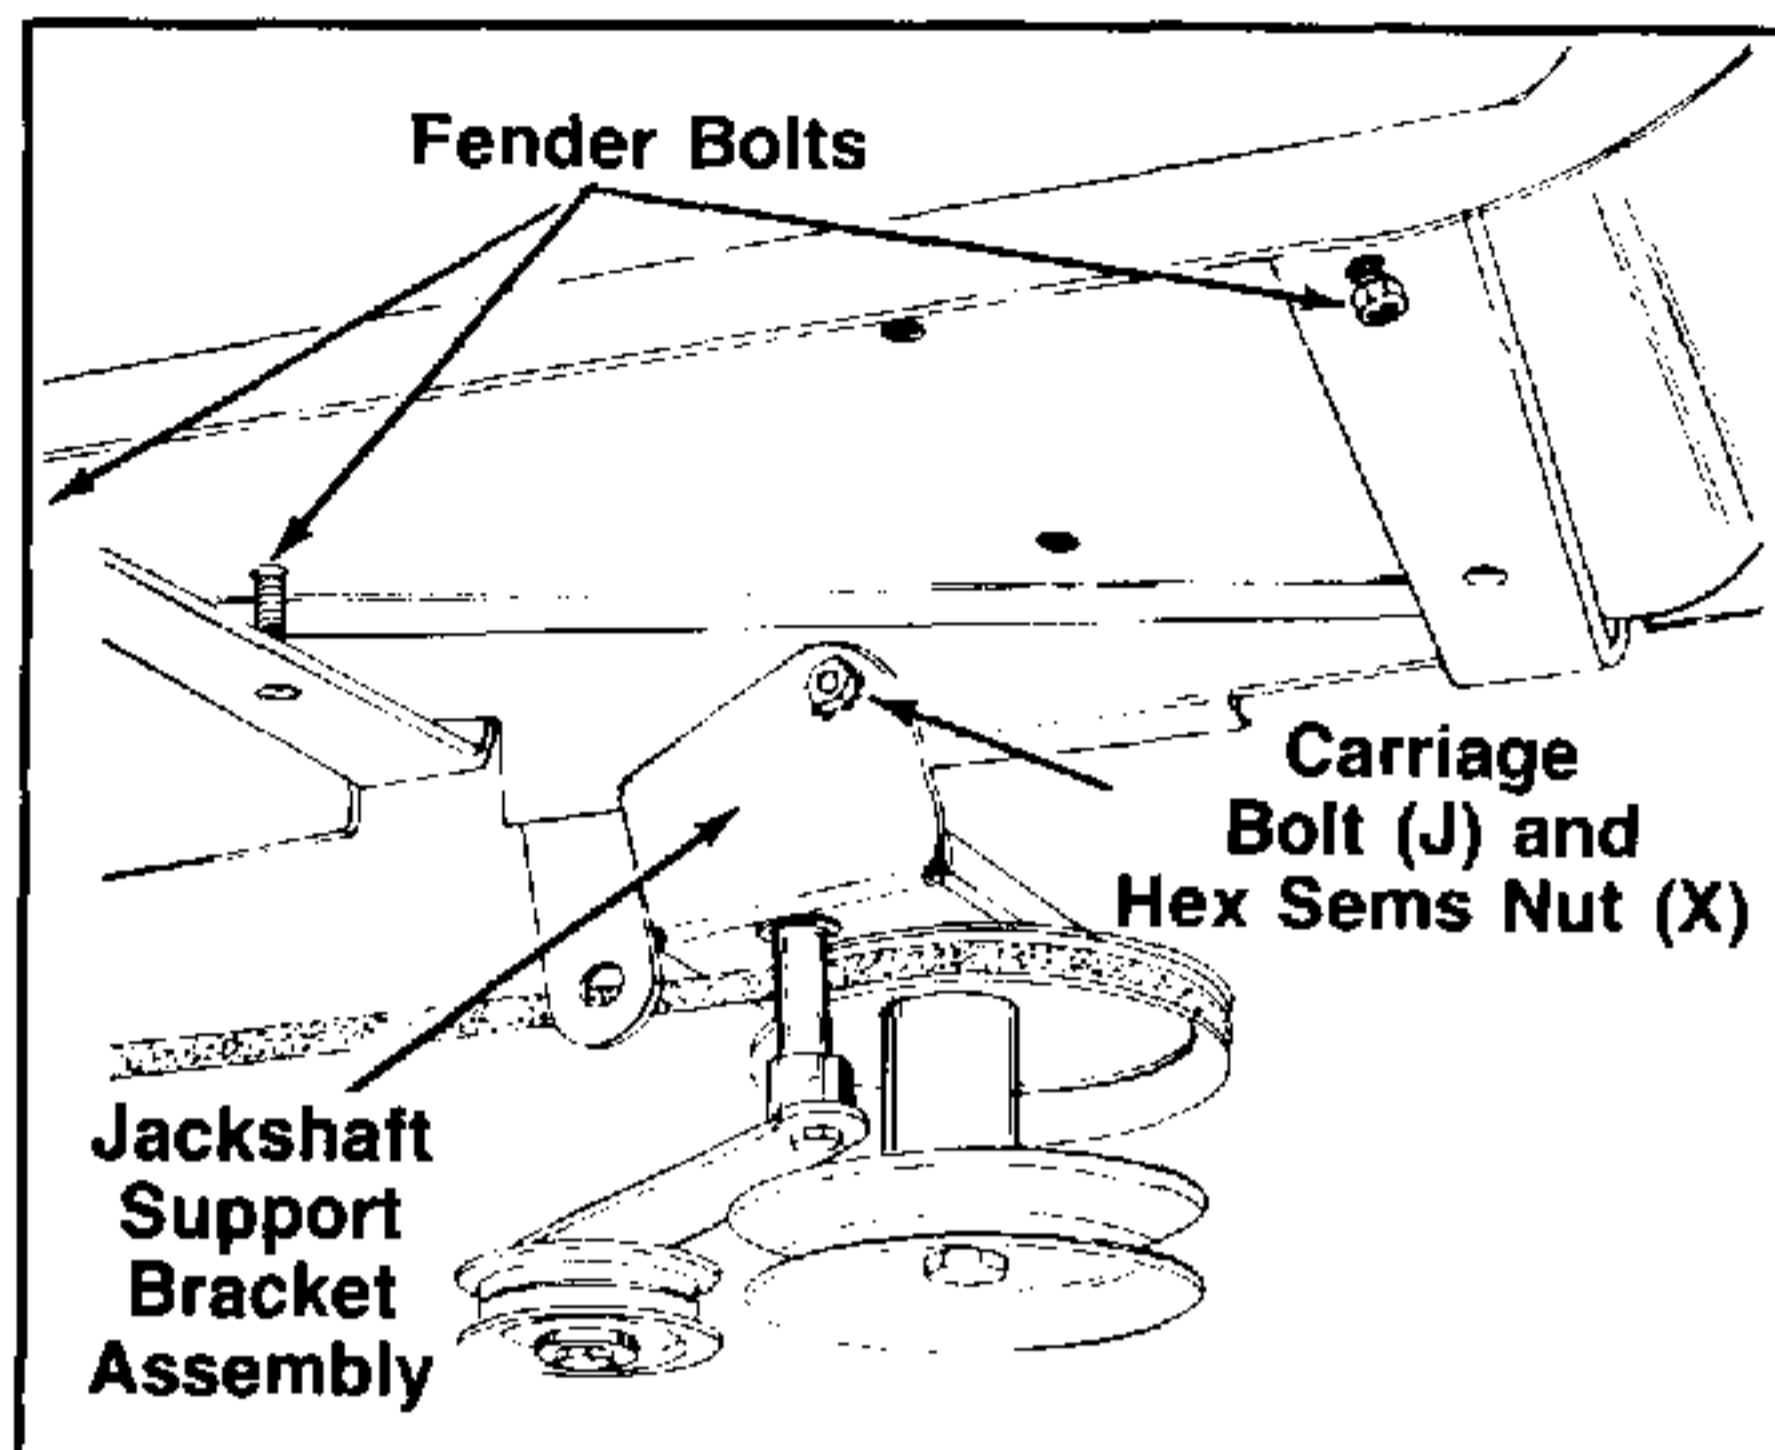

FIGURE 1.
a. On the left hand side of tractor, loosen the three fender bolts and lift up on fender. See figure 1.
b. Place the jackshaft support bracket assembly in position over the square hole on side of frame. Secure with one carriage bolt (J) and hex sems nut (X). See figure 1.